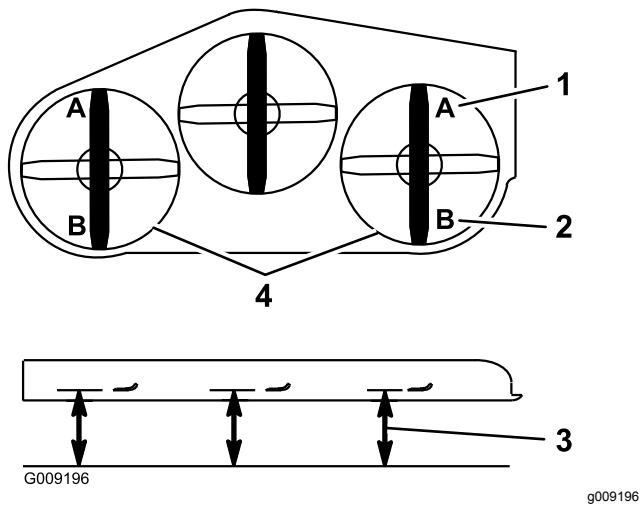

Figure 85
9. On both sides of the deck, measure from the level surface to the front tip of the blade (Position A) as shown in Figure 85.
16. On both sides of the deck, measure from the level surface to the back tip of the blade (position B) as shown in Figure 85.